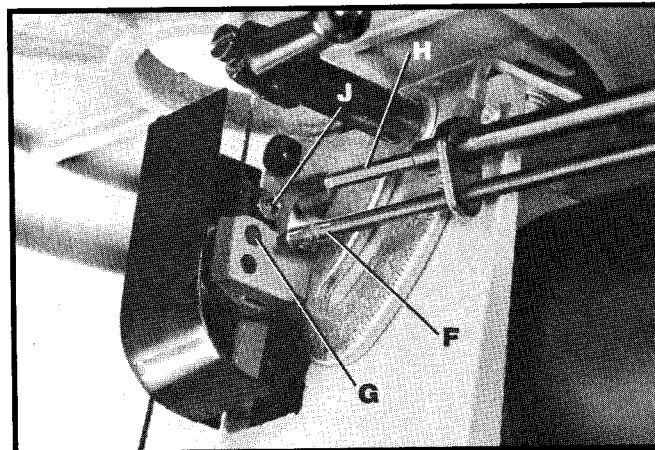

Fig. 25
4. Insert long end (F) Fig. 25, of quickset blade changing wrench into hole (G) in lower blade holder. This will automatically align wrench (H) with blade holder screw (J).